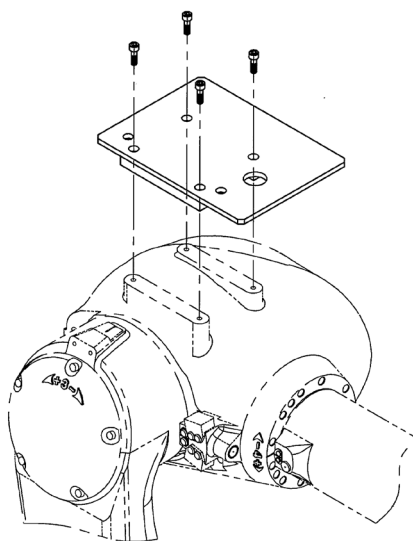

Fig. 1.1 Mounting of fixing bracket
1. Referring to Fig. 1.1, mount the fixing bracket onto the shoulder part of arm.